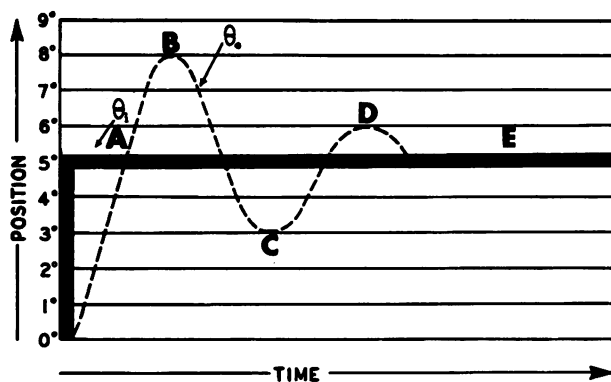

Figure 4A.—Response of a wing-position servo system to a step command from the missile autopilot.
6. At what point in time will the transient error in figure 4A equal 3° ?
7. At what point in time will the transient error in figure 4A be 0° ?
8. What is the value of the steady state error in figure 4A?